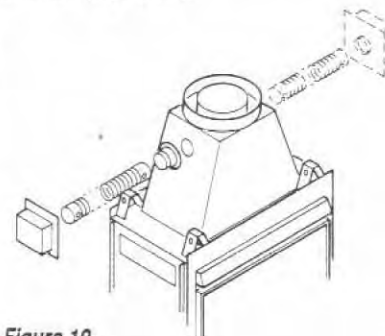

Figure 10
Step 6. Attach the 4" (102mm) collar from the CAK-4 air kit over the grill on the closed end of the transition, using the two (2) screws mounted on the transition (Figure 10).